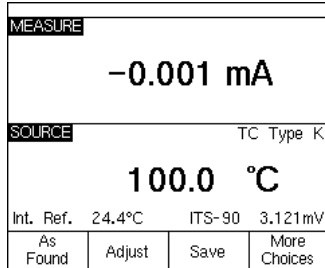

Figure 4
- Next press the "MEAS/SOURCE" button once and you will be in the split screen mode (Figure 4).